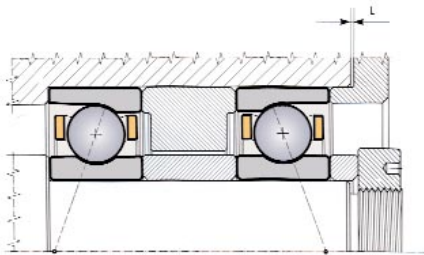

Fig. 7
A residual gap must remain between the end cap and the housing face (*figure 7*) once the force Pa has been applied and the tightening procedure is complete.
- Measure the residual gap "L" between the end cap and the front face of the housing (*see figure 7*).